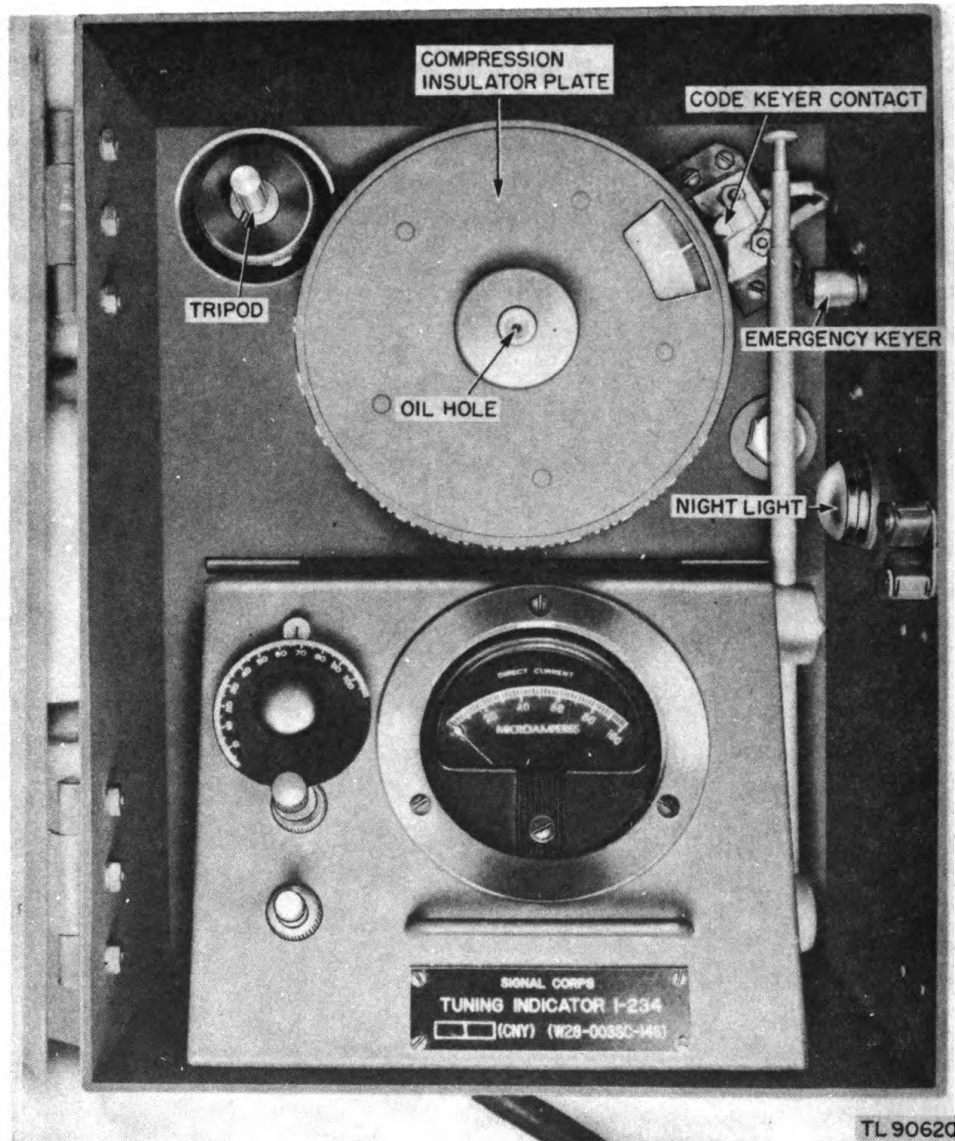

Figure 17. Code-keyer well.
a. The automatic code keyer (fig. 17), is located in the well on top of the antenna mount. A drive shaft extends up through the bottom of the well from the drive gear. This drive shaft supports a metal turntable to hold the code disc.
19. EMERGENCY KEYS. A switch located on the side of the code-keyer well (fig. 17), activated by a push-button protruding into the well, may be used to manually key the transmitter with tone modulation for code communication.